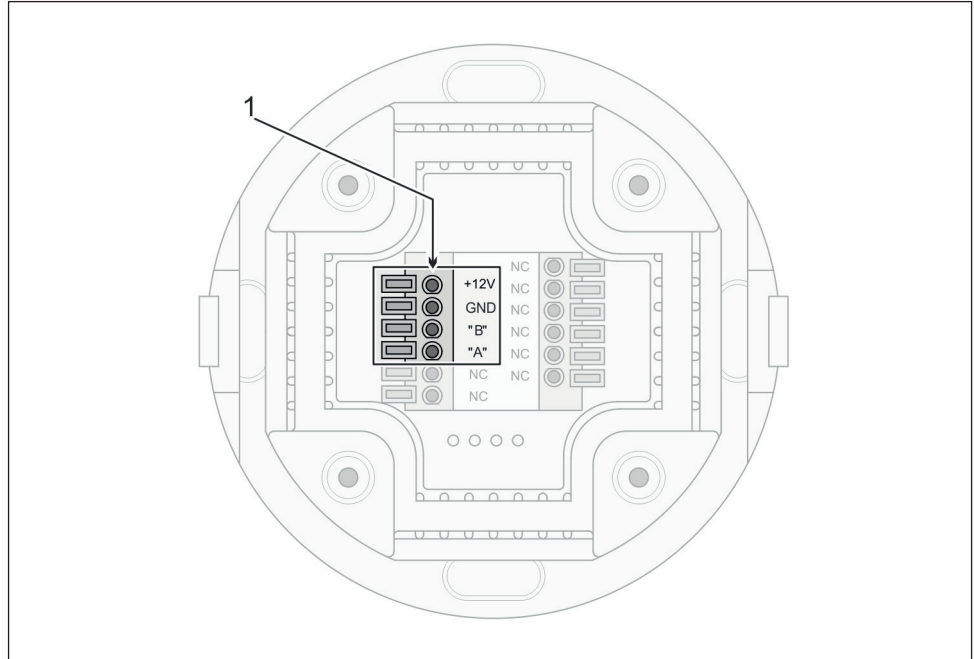

Fig. 13: Connections on the back of the WRU 200 reader
3. Connect the connection leads to the clips of the reader (Fig. 13/1).